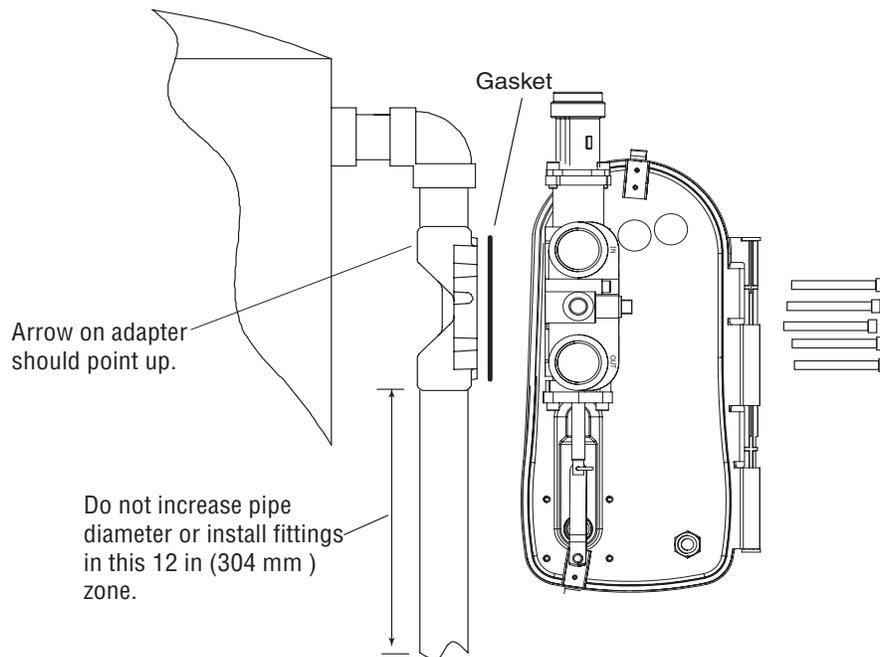

Figure 7 Layout for Side Mount
1. Position the valve body on the side mount adapter with the gasket in place, Figure 7.